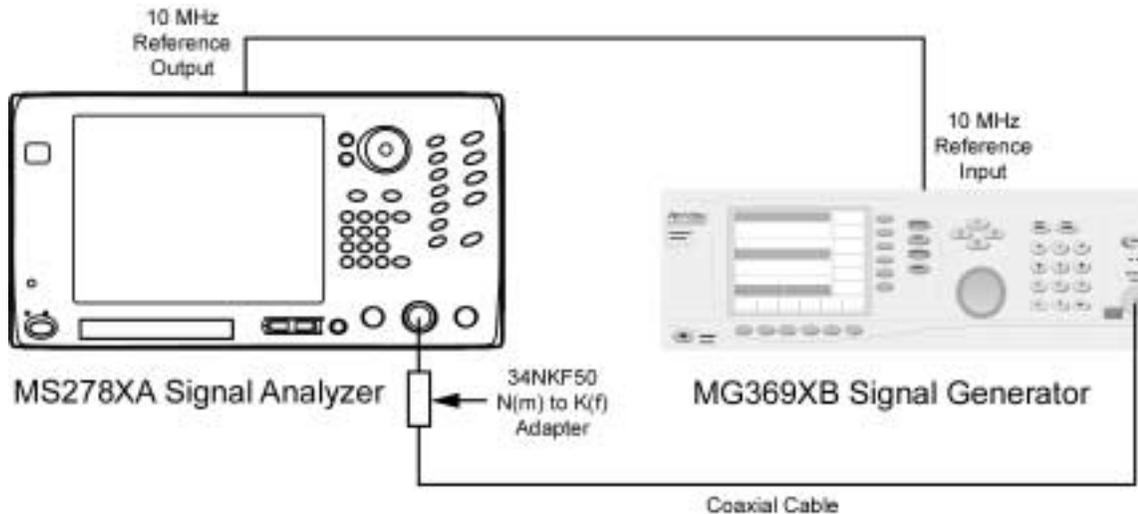

Figure 3-10. Equipment Setup for Resolution Bandwidth Switching Uncertainty Test
- Step 1.** Set up the instruments as shown in Figure 3-10. Turn on both the MS2781A Signal Analyzer and the MG369XB Signal Generator and allow them to warm up for one hour.